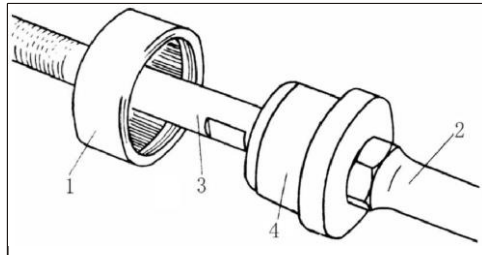
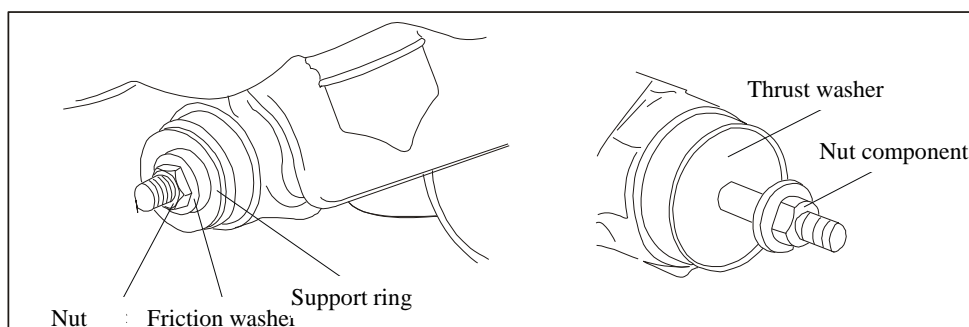

Figure 4-43 Fit Bearing on Joint (Special service tool)
Figure 4-45 Install Medial Needle Bearing
- 2) As indicated in Figure 4-43, coat the new needle bearing with grease, and put on the regulated installation tool (joint).
- 4) On the right side, install special service tool support ring (special service tool), friction washer (special service tool), nut (special service tool) on stud shown in Figure 4-43, as shown in Figure 4-45.
5) Screw nut (special service tool) in the direction indicated in Figure 4-45, to force needle bearing in position slowly, when thrust washer (special service tool) press tightly with nut (special service tool), stop screwing nut (special service tool), the medial needle bearing has been installed.